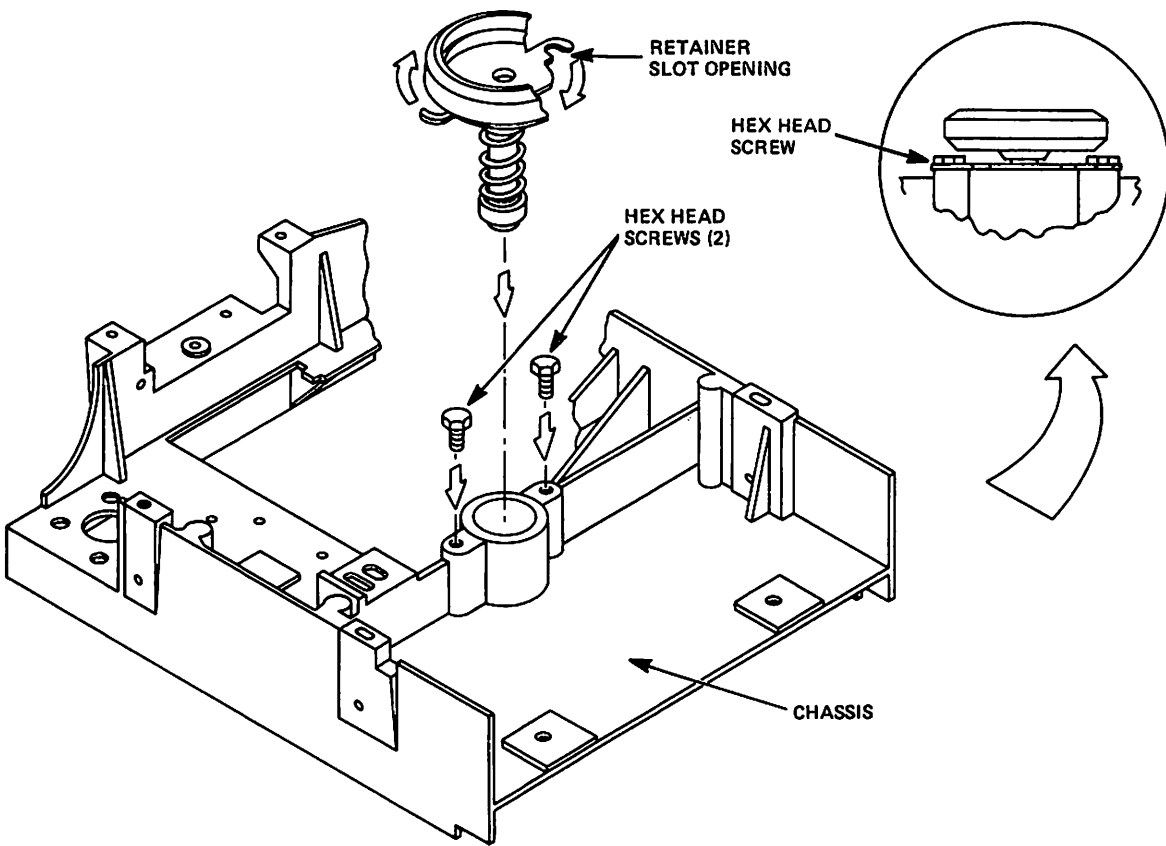

Figure 5-31
- 5.15.7 Using one-quarter (1/4) inch wrench, loosen the two (2) hex head screws that attach the Spindle Assembly to the top of the chassis (see Figure 5-31).
- 5.15.8 Rotate the retainer counterclockwise until its slot openings no longer are held by the two (2) hex head screws (see Figure 5-31).
- 5.15.10 Insert the new Spindle Assembly carefully into its mounting hole at the top of the chassis (see Figure 5-31).
- 5.15.12 Using a one-quarter ( $\frac{1}{4}$ ) inch wrench, tighten the two (2) hex head screws that attach the bearing retainer to the chassis (see Figure 5-31).